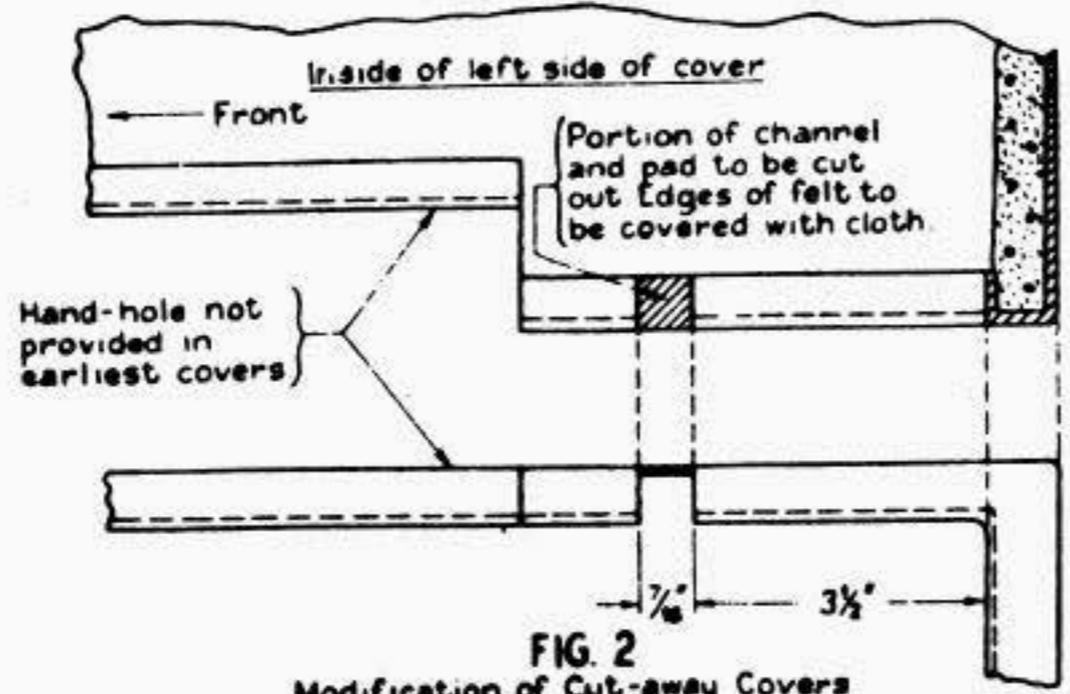

FIG. 2
2.03 Modify the cover as shown in Figure 2.